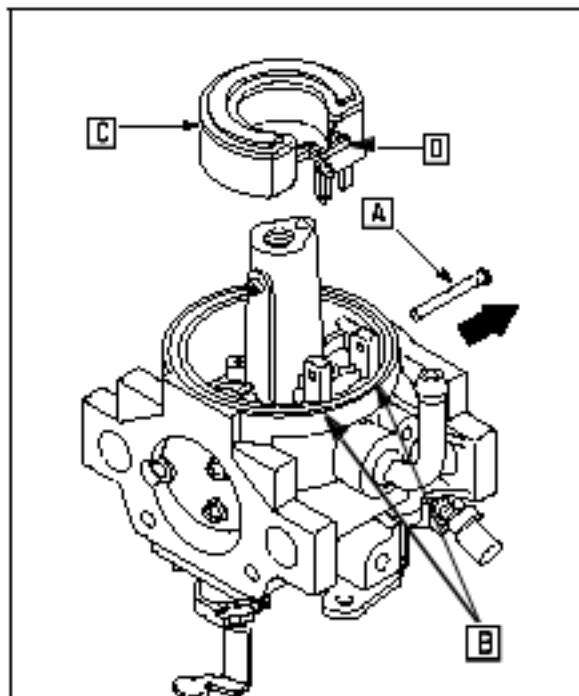

Fig. 53
Push float hinge pin (A) out of the hinge posts (B). Remove float (C) and needle assembly ([D] Fig. 53).
The float hinge pin ([A] Fig. 53) is a slip fit.